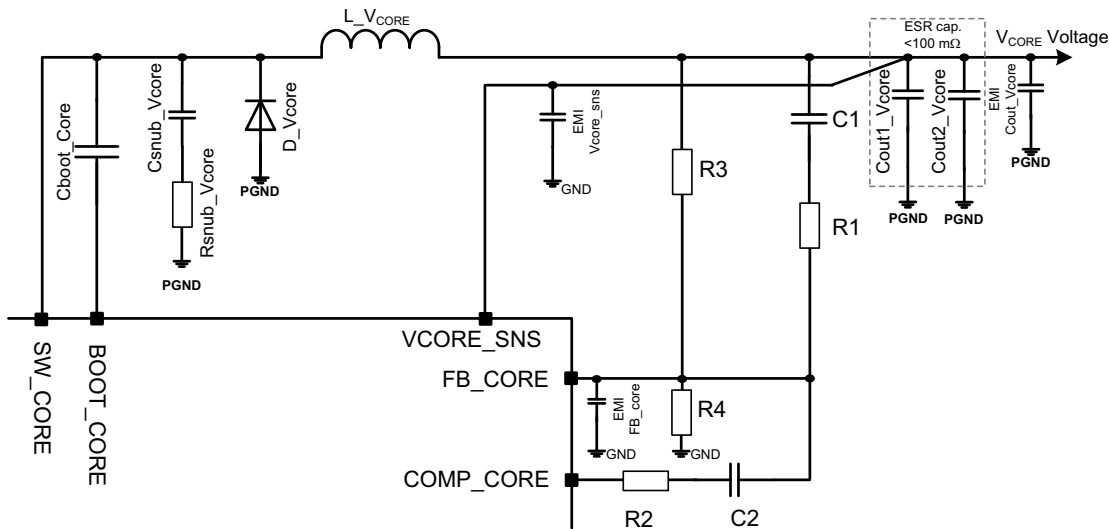

Figure 16. VCORE connections
The core supply regulator is configurable from 1.2 V to 3.3 V range and adjustable around these voltages with an external resistor bridge (R3 and R4). An external compensation network made of R1, C1, R2, and C2 is connected between VCORE\_SNS, FBCORE, and COMPCORE to ensure a good stability of the closed loop. The core supply connections are shown in Figure 16.
- The current pike in RSNUB\_VCORE at each VCORE cycle is important. The RSNUB\_VCORE resistor type must be at least 1/4 W.  $P(R_{SNUB\_VCORE}) = 1/2 * C_{SNUB\_VCORE} * (V_P^2 + V_N^2) * F_{SW}$  where  $V_P$  and  $V_N$  are the voltage levels (positive and negative) measured at the resistor RSNUB\_VCORE (see Figure 16).